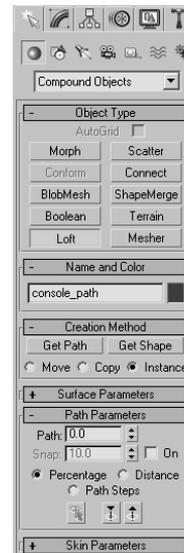

FIGURE 9.11 In the Create panel, Geometry panel, Compound Objects panel, check the Loft button in the Object Type rollout.
3. In the Perspective viewport, select `console_path`. In the Create panel, Geometry panel, click Standard Primitives, and choose Compound Objects from the list. In the Object Type rollout, click the Loft button (see Figure 9.11).